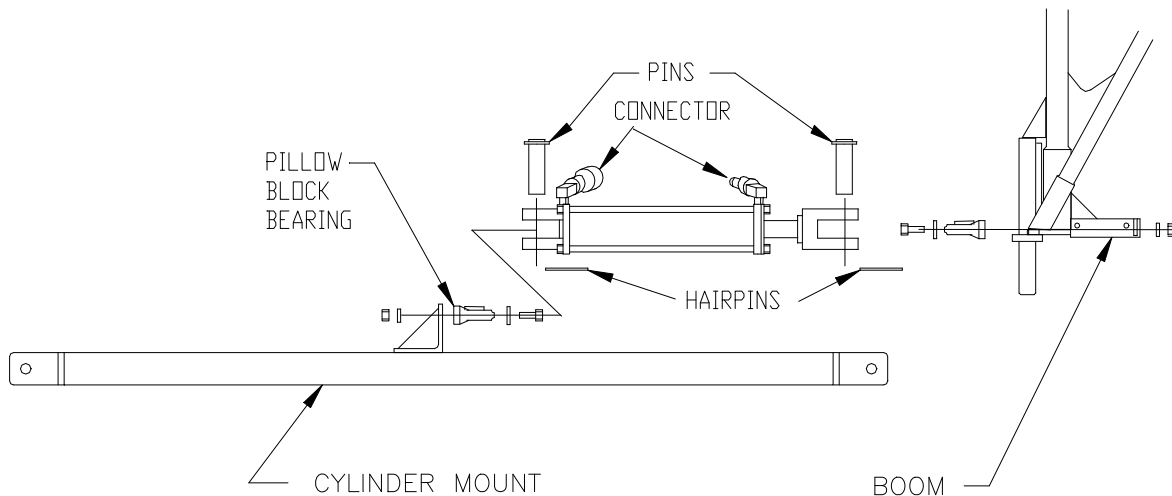

Figure 3-10.
2. Mount the Cylinder assembly to the Cylinder Mount Brace and Boom using the 3/8" x 1-1/2" bolt, washer, star washer, and hex nut hardware provided. If mounting the Cylinder Pillow Blocks separately (as in a replacement situation), mount these blocks with the center hub protruding upward. The extending part of the Cylinder must be toward the Boom. See Figure 3-10.